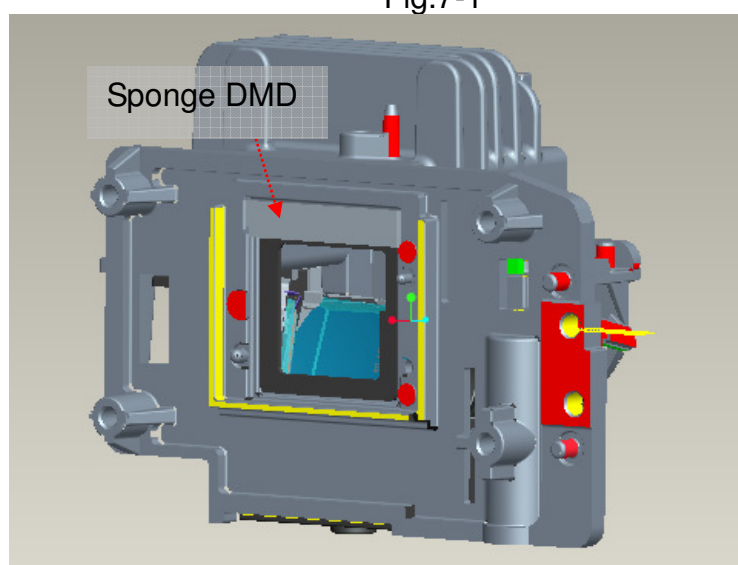

Fig.7-2
7.3 Assemble Chip B/D Module to “HSG DMD” (Fig. 7-2, 7-3).